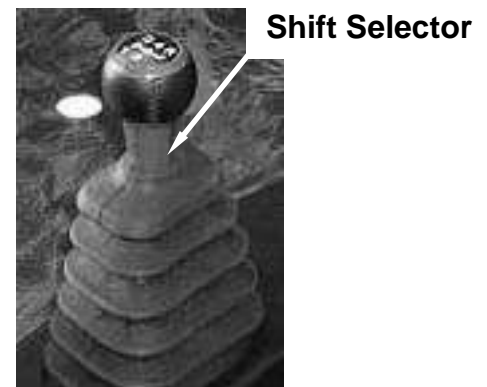

FIGURE 3
5) **Shift Selector:** Changes trans-axle gears from neutral to forward or reverse. Always start engine in neutral. (See figure 3)